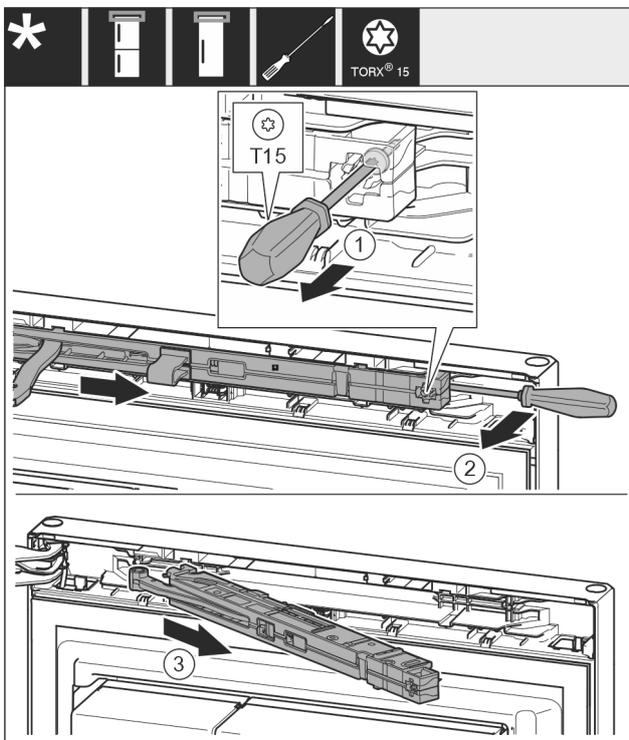

Fig. 15
- ▶ Use screwdriver to loosen the screw Fig. 15 (1) on the closing damper unit by 14 mm.
- ▶ Lever the closing damper unit Fig. 15 (2) forwards on the handle side using a screwdriver.
- ▶ Pull out the closing damper unit Fig. 15 (3).